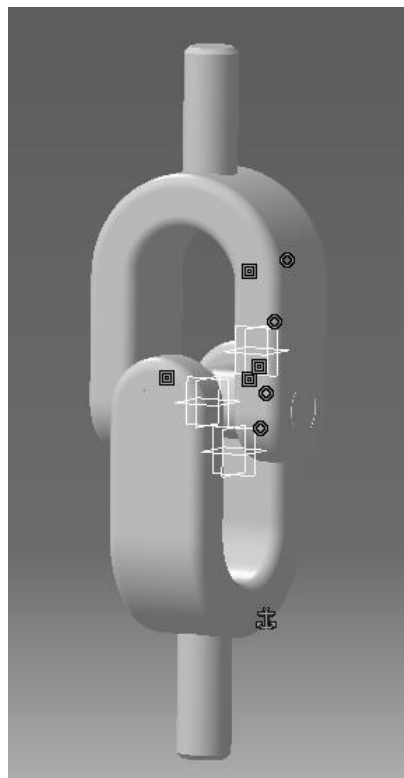

Figure 4.8
- 2.6 The swivel should now be lined up with the Bottom U-Joint so that the shafts of the Swivel are inside the holes in the Bottom U-Joint as shown in figure 4.8.